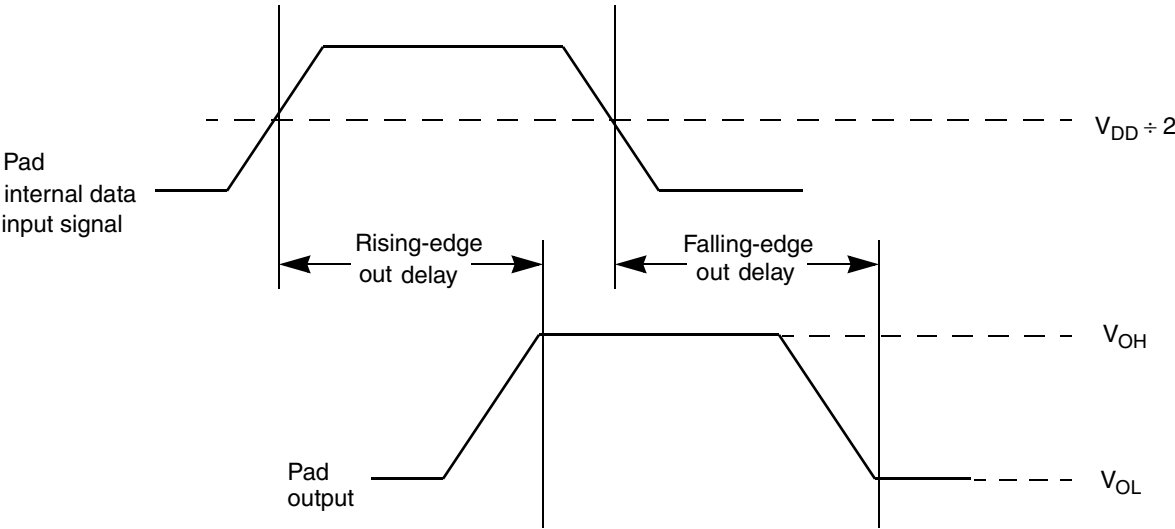

Figure 4. Pad Output Delay
3 The output delay is shown in Figure 4. To calculate the output delay with respect to the system clock, add a maximum of one system clock to the output delay.
- 4 The output delay is shown in Figure 4. To calculate the output delay with respect to the system clock, add a maximum of one system clock to the output delay.